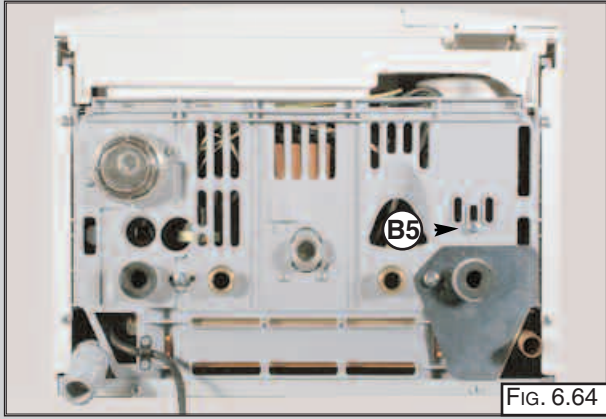

FIG. 6.64
4. Remove the screw "B5" (FIG. 6.64);